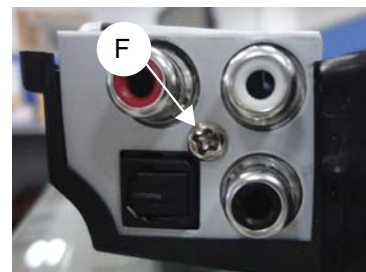

Figure 6
- 3) Loosen 1 screws "F" at the brakcet to remvoe the AUX & OPTICAL board as shown in figure 6.